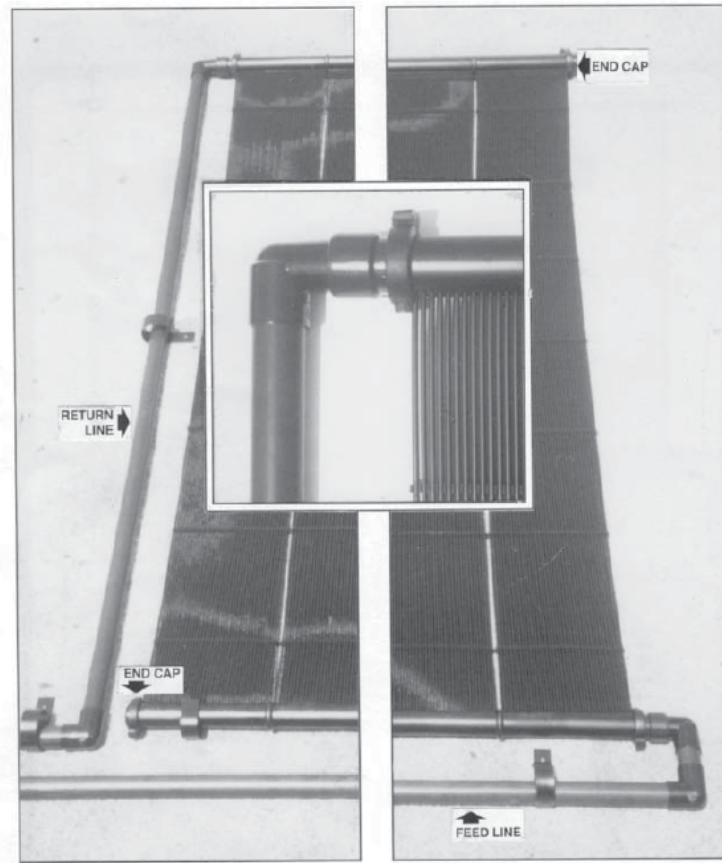

Fig. 12.1
1. Cement the appropriate size PVC 90-degree elbow to the return line stub facing down toward the bottom header. Repeat the process for the feed line header stub and face the elbow down away from the array. (see Fig. 12.1, page 21)